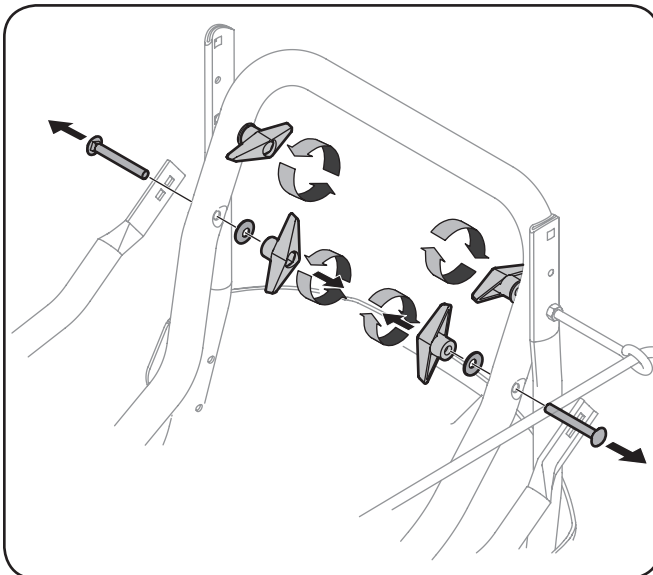

Figure 3-1
2. Remove the lower wing nut, bell washer and carriage bolt from each side of the upper handle, as shown in Figure 3-1.